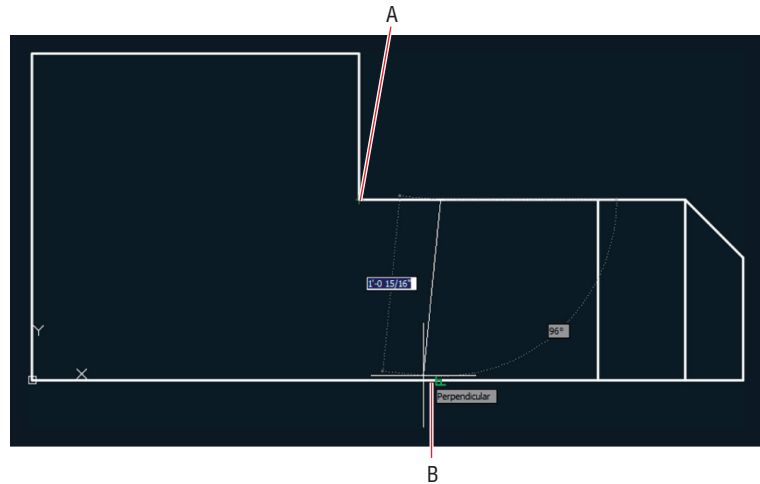

FIGURE 3.14 Drawing a line using the From object snap
- Type L and press Enter. Hold down Shift, right-click to open the Object Snap context menu, and choose Nearest. Object snaps invoked from the context menu override any running object snaps. Click point A, shown in Figure 3.14. Nearest ensures that the new line is attached somewhere along the edge of the horizontal line.
10. Move the cursor close to point B, as shown in Figure 3.14, and click when the perpendicular marker appears. Press Esc to end the LINE command.
2. Click point A shown in Figure 3.14. This is the point from which you will specify a displacement. Type @6<0 (or @150<0 for metric) to specify the displacement to the first point of the line and press Enter.